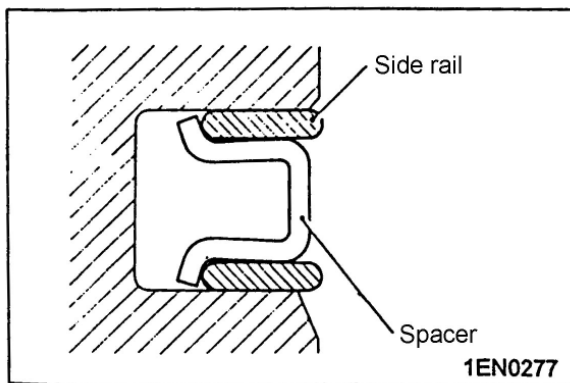

Fig.4-50
(2) OIL RING INSTALLATION
- a Fit the oil ring spacer into the piston ring groove. Then, fit the upper and lower side rails, see Fig.4-50.